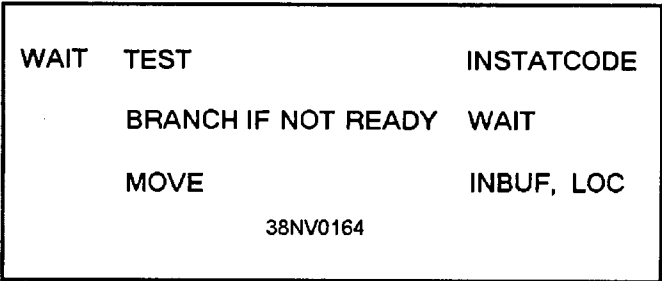

Figure 7-12.—Polled I/O; read operation,
**POLLED I/O.**— In polled I/O, the CPU must regularly check— or **poll** — each channel or port in turn to determine if it has information for input or is ready to accept data for output. A flag register can be used to check the port’s status. Polling is time consuming. The CPU must pause between executing processing instructions and poll of each port. A port’s status is examined in case action is required by the computer. We use a keyboard as an example of polled I/O. Figure 7-12 shows a read operation. The CPU reads or receives 8-bit encoded characters as they are typed on the keyboard. The CPU is programmed to read the input characters from an external device, in this case a keyboard. The keyboard inputs parallel 8-bit character codes for each depression of the keys. Characters are entered slowly as compared to the CPU’s ability to